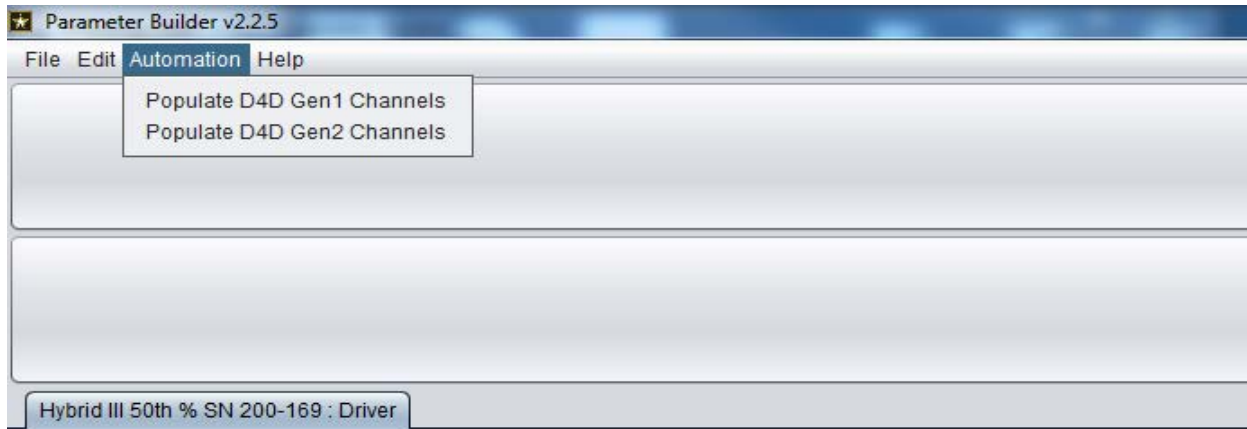
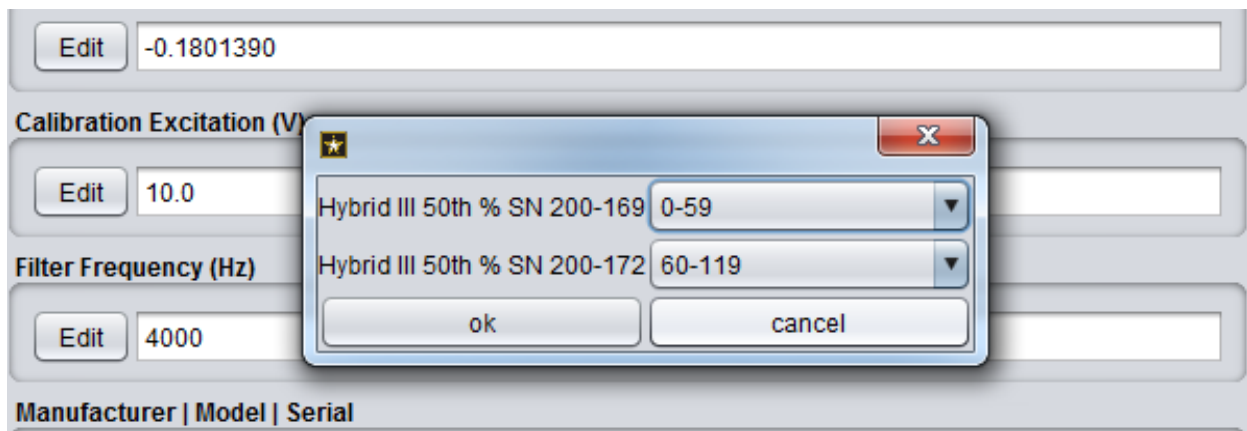

Figure 3. Automation selection.
Figure 4. Channel assignment.
b. After all of the ATDs have been selected, the sensor channels within the ATD need to be assigned their corresponding DAS channel. To do this select the automation menu (Figure 3) in the upper left hand corner and select Populate D4D Gen 1 Channels. In the text box that comes up select the channels that you want to be associated with the specific ATD serial number (Figure 4).